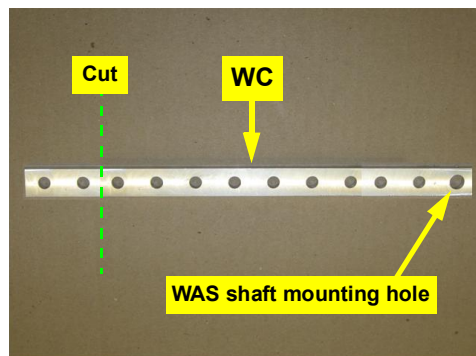

Figure 1b: WAS arm preparation
- b. Cut two holes off WAS arm **WC** at the opposite end from the WAS shaft mounting hole (Figure 1b).